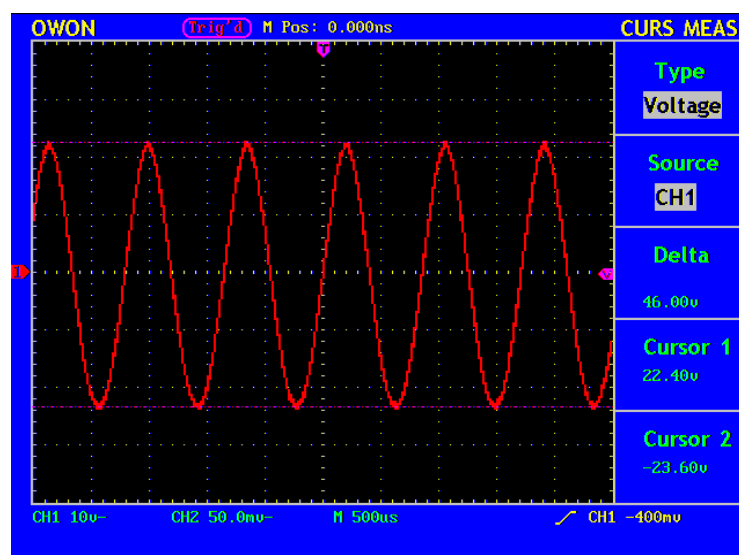

Fig.60 Voltage Cursor Measurements
- Press **F2** to select **CH1** as the **Source**. The results are shown on the screen. (see Fig.60)